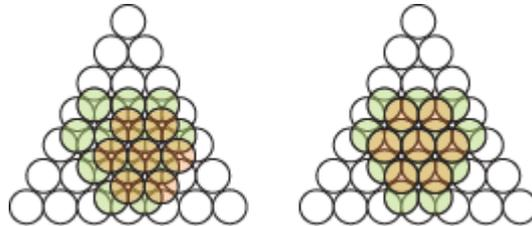

Figure C28. FCC (ABCABC) and HCP (ABAB) stacking of close-packed layers.
**E12.** The FCC packing of copper is shown in Figure C28, left. There is a 3-fold axis normal the drawing.
**E13.** The packing in magnesium is shown in Figure C28, right. There is a 3-fold axis normal to the drawing. The 6-fold axis of the 2-D hexagonal layer A is destroyed by placing the layer B in the position shown, leaving 3-fold symmetry.